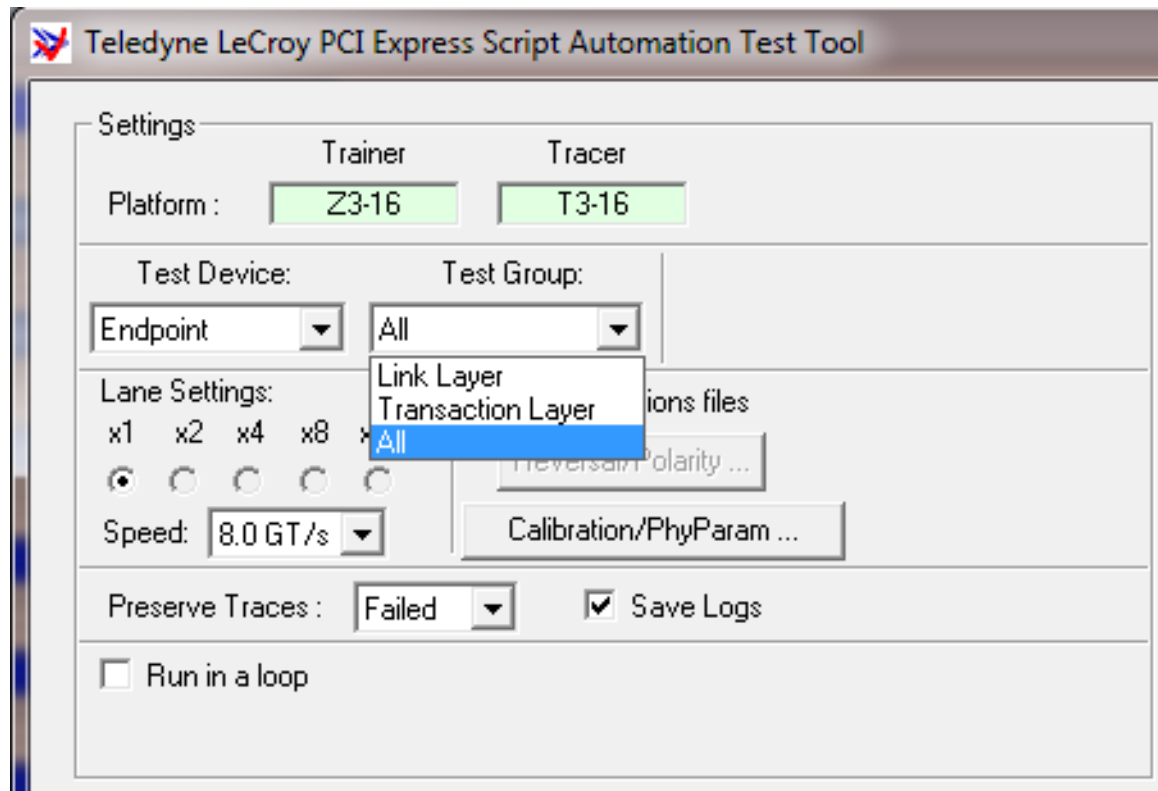

Figure 3.5: Link width and speed selection.
**Lane Settings:** Carry out all testing at x1 link width. See Figure 3.5.